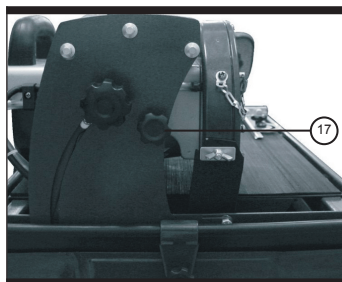

Fig 13
12.Remove the motor locking knob (17) and store for further use later. (See fig13)
Secure the motor with the locking knob (17). (See fig 13.)